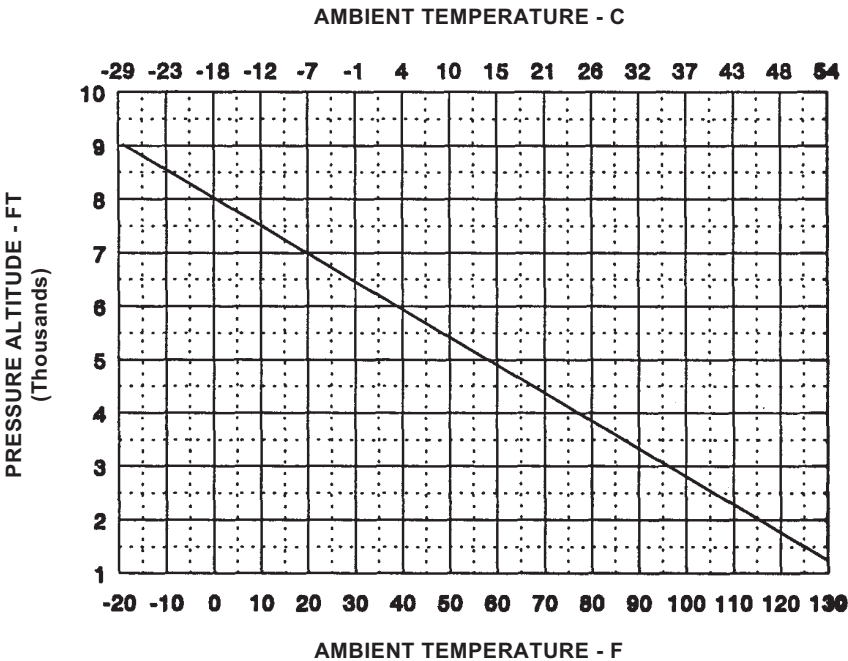

Figure 5-2. Hover Ceiling In Ground Effect - Two Foot Skid Height, at
- See Fig. 5-2 for hover ceiling in ground effect.